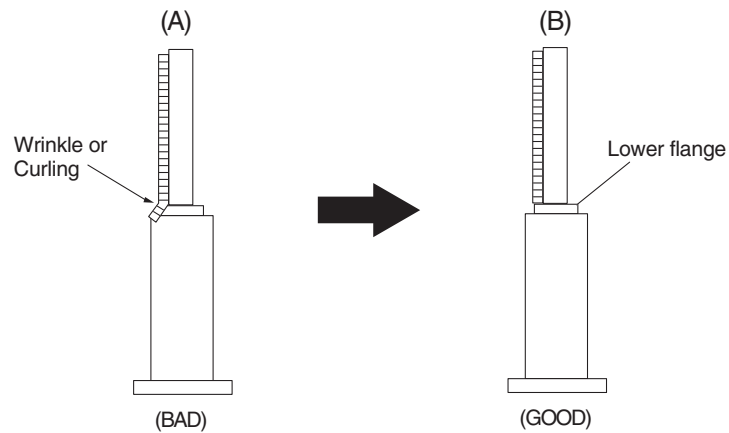

Fig. 5-3-5 #8 Guide Post Check
- 2) Confirm that there is no curl or wrinkle at the lower flange of #8 guide post as shown in Fig. 5-3-5 (B).